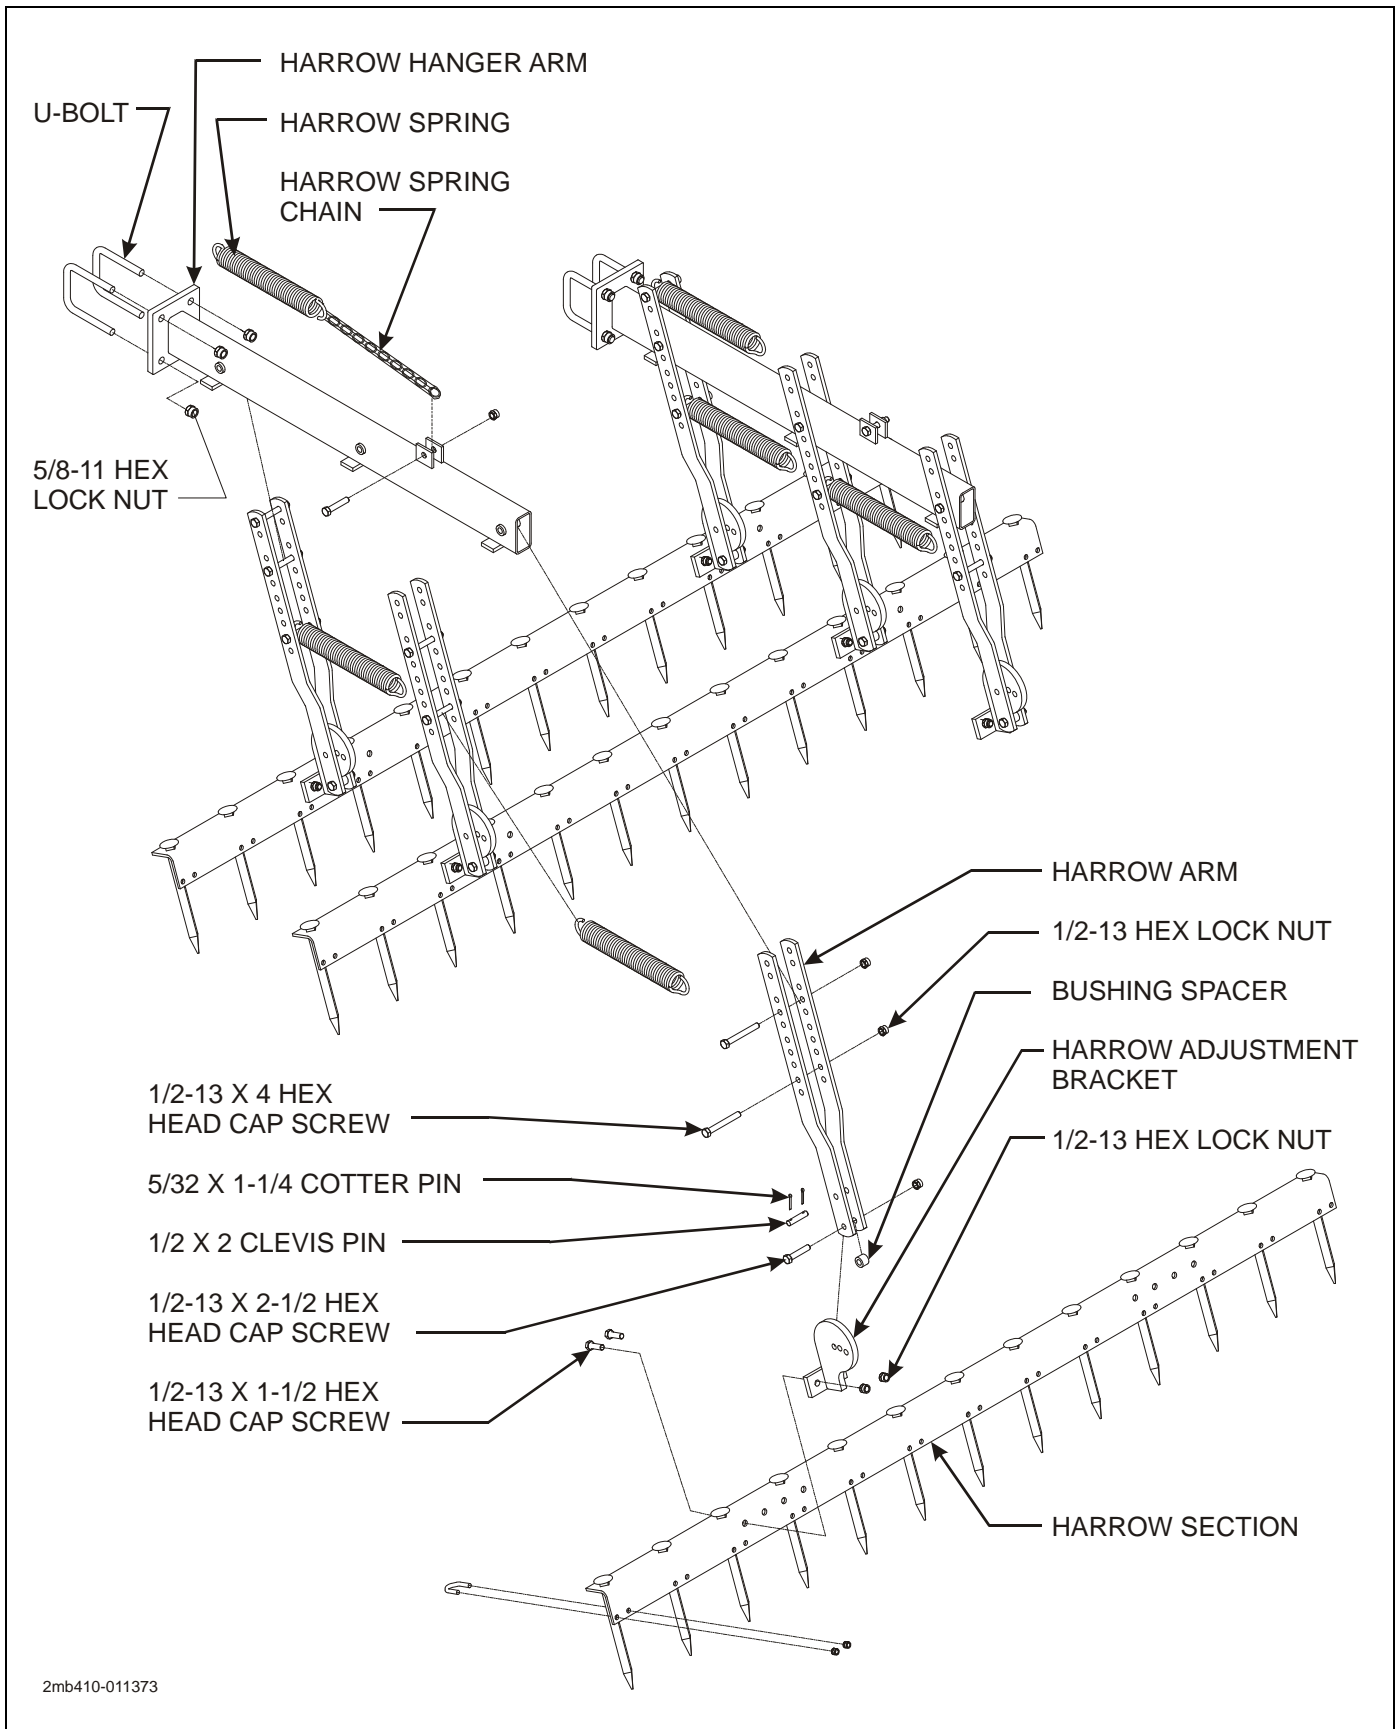

Figure 3-14: Harrow Assembly Installation
4. Install harrow springs and chains as shown in **Figure 3-14** using 1/2-13 x 4 hex head cap screws and hex lock nuts. The top spring is anchored in the 1st hole from the top. Front lower spring and rear lower spring are anchored in the 7th hole from the top of the harrow arm. Upper chain is anchored through the enlarged link with a 1/2-13 x 2-1/2 hex head cap screw and hex lock nut and hooked on the spring in the 8th link from the bolt. Lower chains are anchored in the second from bottom harrow arm hole and hooked on the spring in the 4th link from the screw.